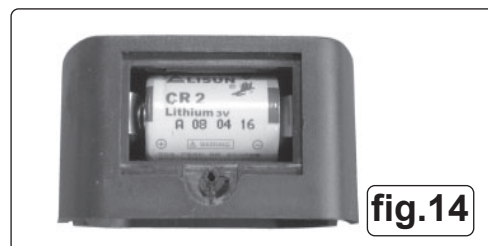

fig.14
- 6.2.3. Remove and replace battery (fig.14).